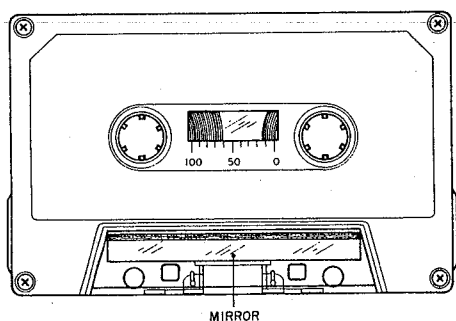

Fig. 25 Mirror Cassette
- 1) When using an ordinary cassette, the tape guides and heads, etc. are not visible. As shown in Fig. 25 use a cassette tape from which part of the cassette case has been cut out and a mirror installed for easy visibility of the head area when making tape guide height adjustment.
4. When a mirror installed cassette test tape as shown in Fig. 25 is required, it can be ordered from AKAI Electric Co.